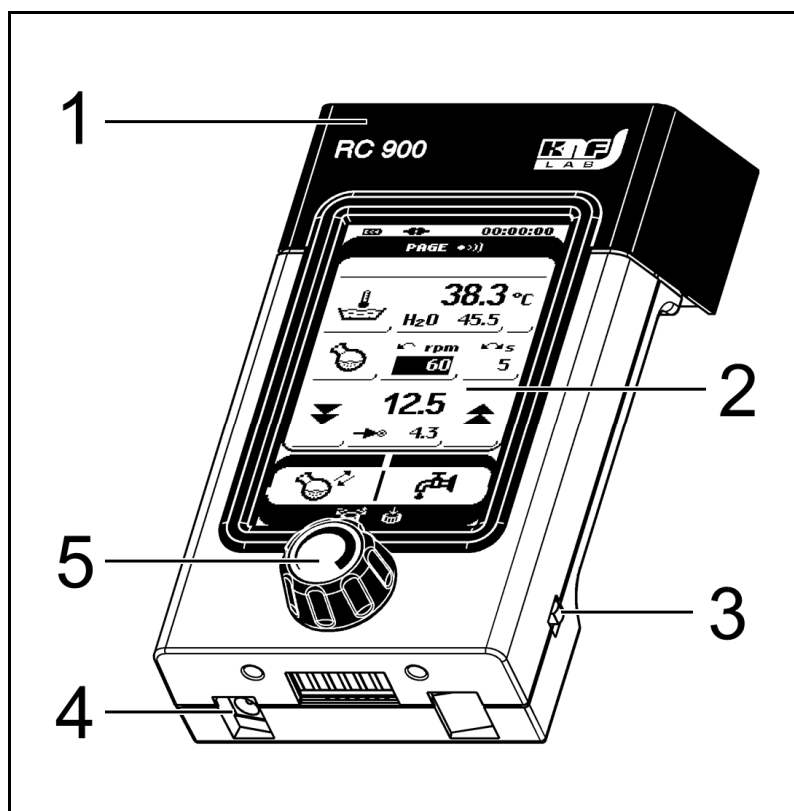

Fig. 10: Hand terminal
- rotary knob (Fig. 10/5) and
- touchscreen (Fig. 10/2).
Pick up the hand terminal from the rotary evaporator as follows: Grasp hand terminal at upper grip (Fig. 10/1) and pull until it releases (remove transportation safeguard if necessary, see Ch. 6).
Replace the hand terminal by putting its underside onto the holder for the hand terminal (Fig. 1/1, page 12); then firmly press the hand terminal at the upper grip (Fig. 10/1) until it engages.